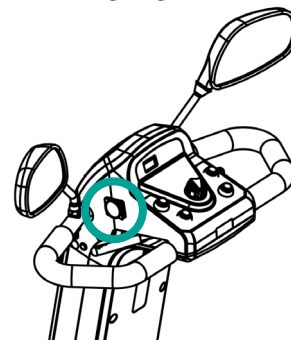

Figure 8.2
8.3.3 Open the charging socket cap on the steering column. Then connect the charger's round plug to the charging socket. (See Figure 8.2)